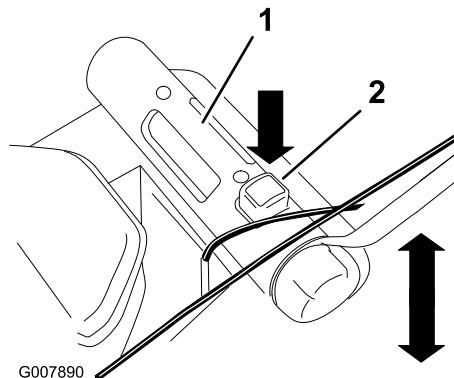

Figure 16
2. Press down on the cutting height adjustment button and hold the cutting height adjustment handle to move the cutting height up or down (Figure 16).